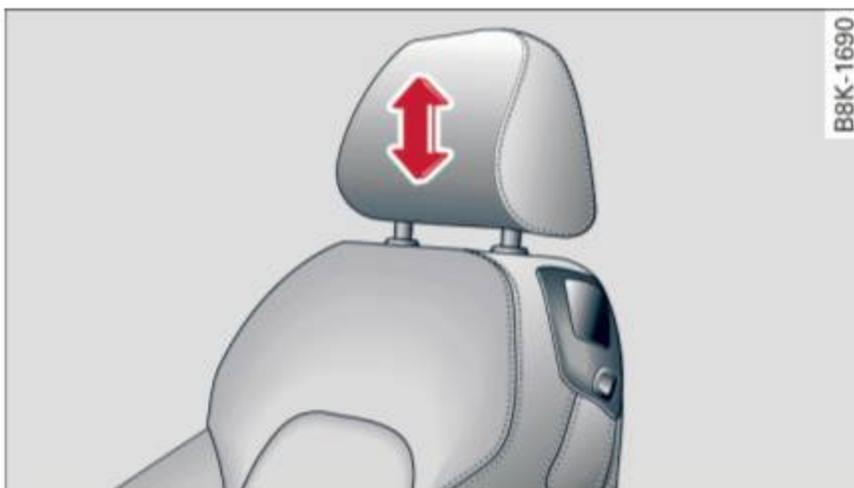

Fig. 56 Front seat: adjusting the manual head restraints
- ▶ To adjust the height of the manual head restraint*, grip the head restraint on the sides with both hands and slide it up/down until it locks into place ⇒ *fig. 56*.